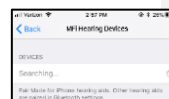

Figure 10
3. Ensure Bluetooth is enabled. The Apple device will start searching for your hearing aids (Figure 10).